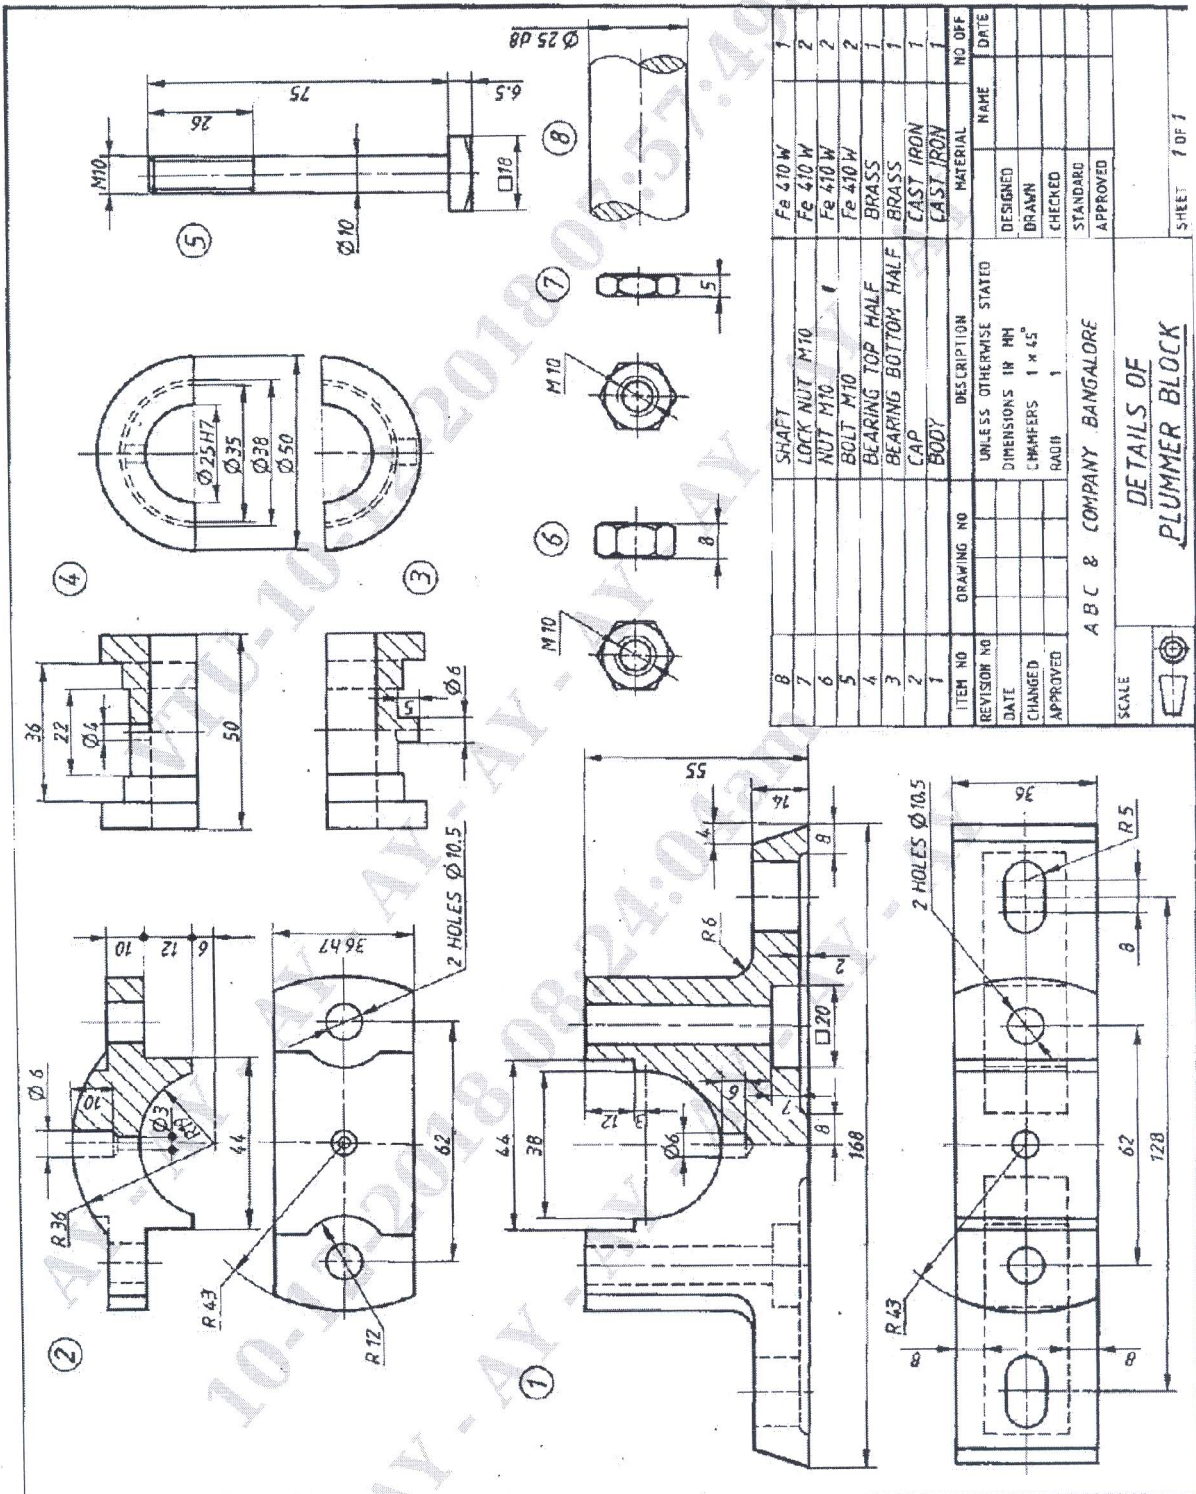

Figure 1: Details of Plummer block
- Q.No.5** Figure 1 shows the details of a "PLUMMER BLOCK". Assemble the Parts and show the following views.